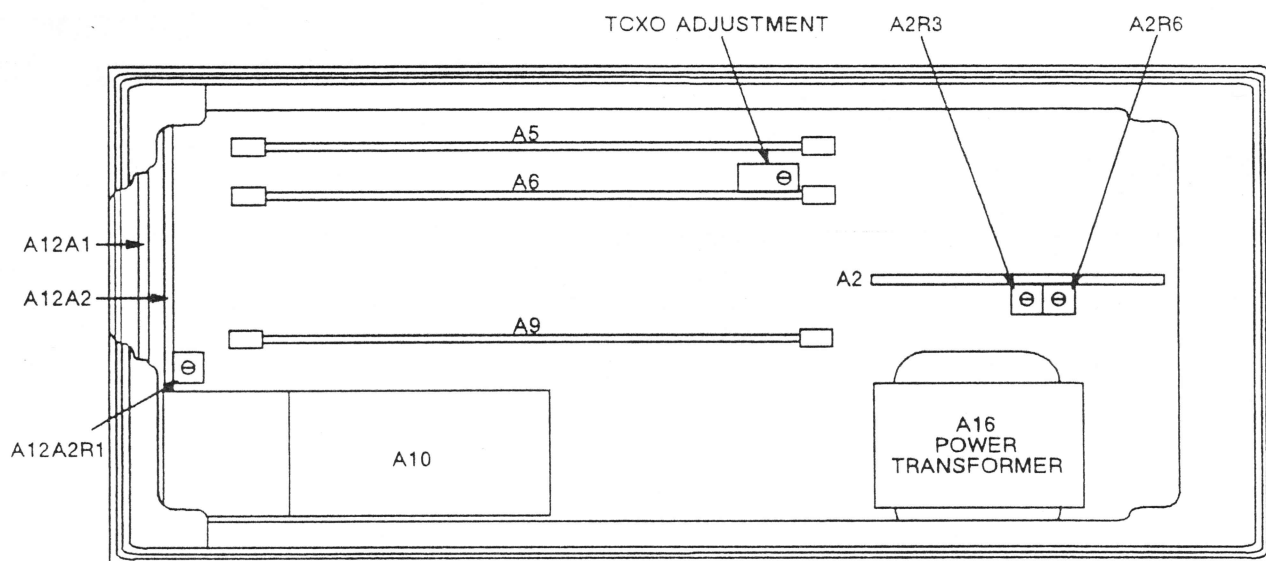

Figure 7-1. Adjustment Control Locations.
Table 7-1 lists the functions, specifications, and methods used when performing the adjustment and calibration routines. Figure 7-1 shows the locations of the adjustment controls. (Note: for additional information on PCB assembly component or test point (TP) locations, refer to Section 10 of this manual.)
6. While monitoring the 10 MHz time base signal from the 625A on the oscilloscope, adjust the time base (by turning the TCXO adjustment shown in Figure 7-1) until the horizontal movement rate is ≤ 1 centimeter in 10 seconds. This sets the time base to an accuracy of 1×10^{-7} (10 MHz ± 1 Hz).